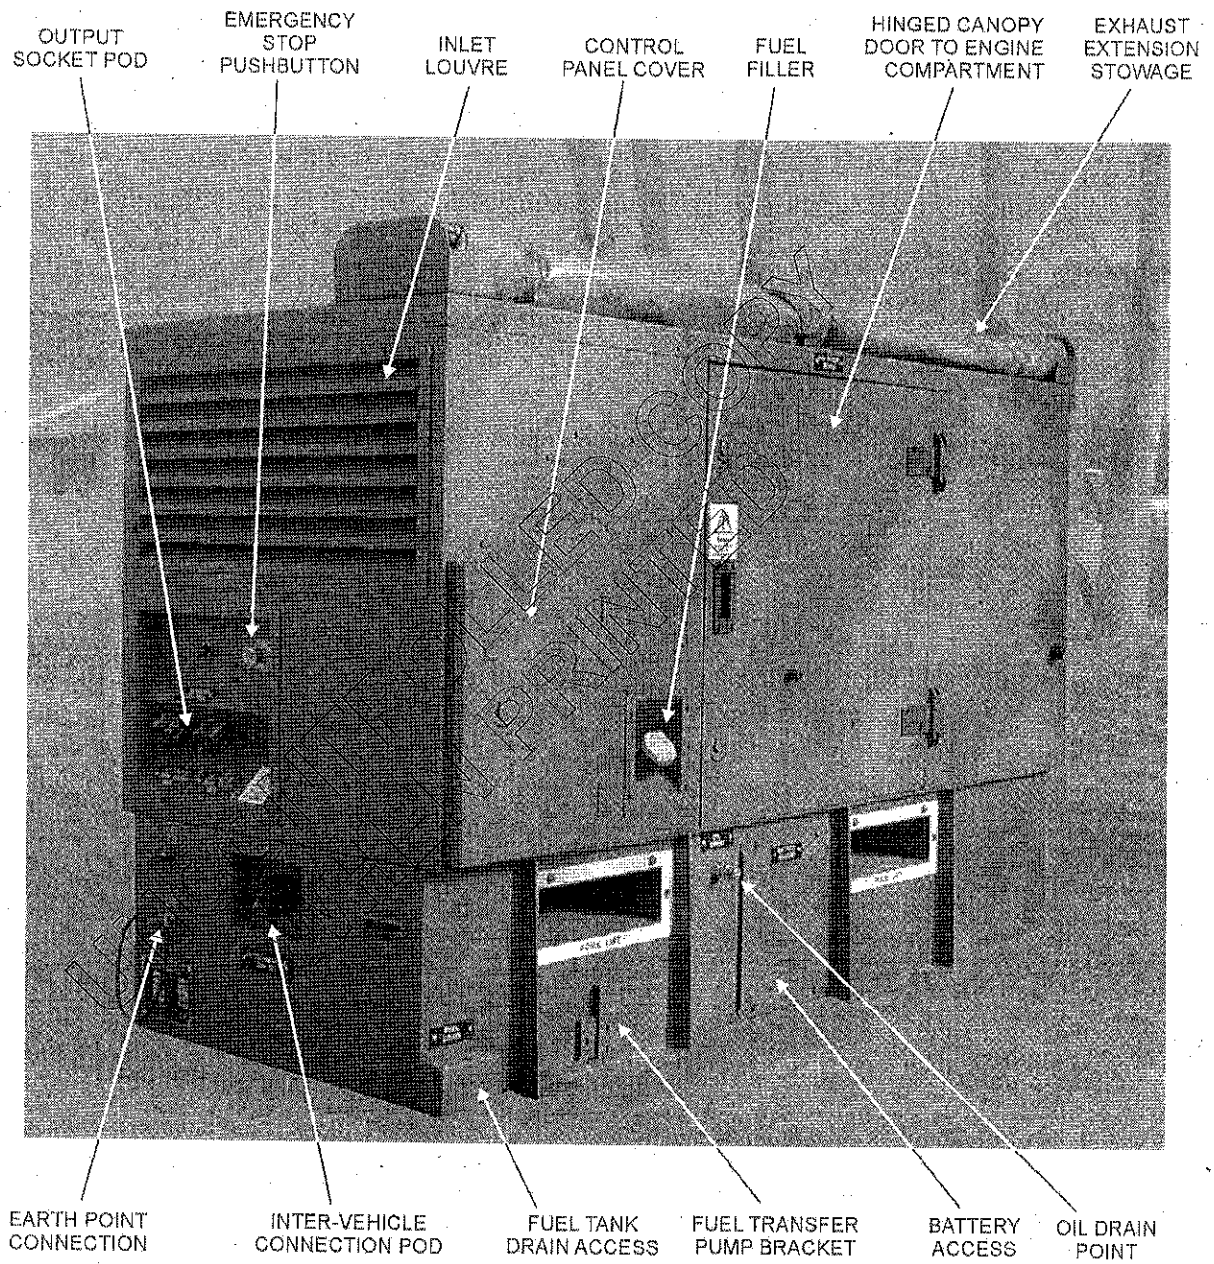

Fig 1 Cormorant 20kVA generator canopy front view
- 3 The canopy (Fig 1) houses the exhaust silencer and provides shielding.